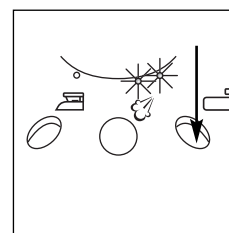

fig. 3
- Press the Boiler ON/OFF switch. The indicator lights for the boiler (red) and steam (orange) will come on (fig. 3).